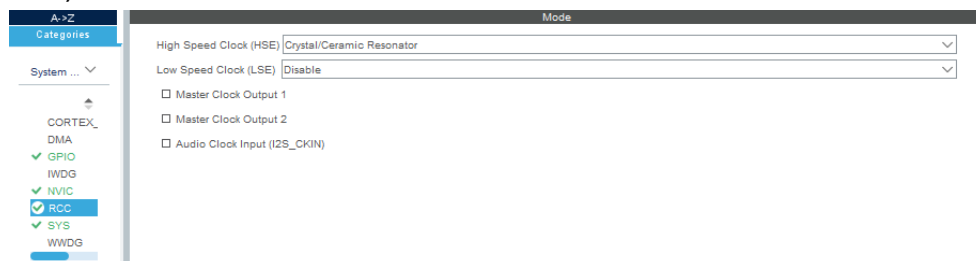

Figure 2 : Configuration RCC
2. Sur **RCC** on choisit **Crystal/Ceramic Resonator** comme High Speed Clock (HSE) (Figure 2)